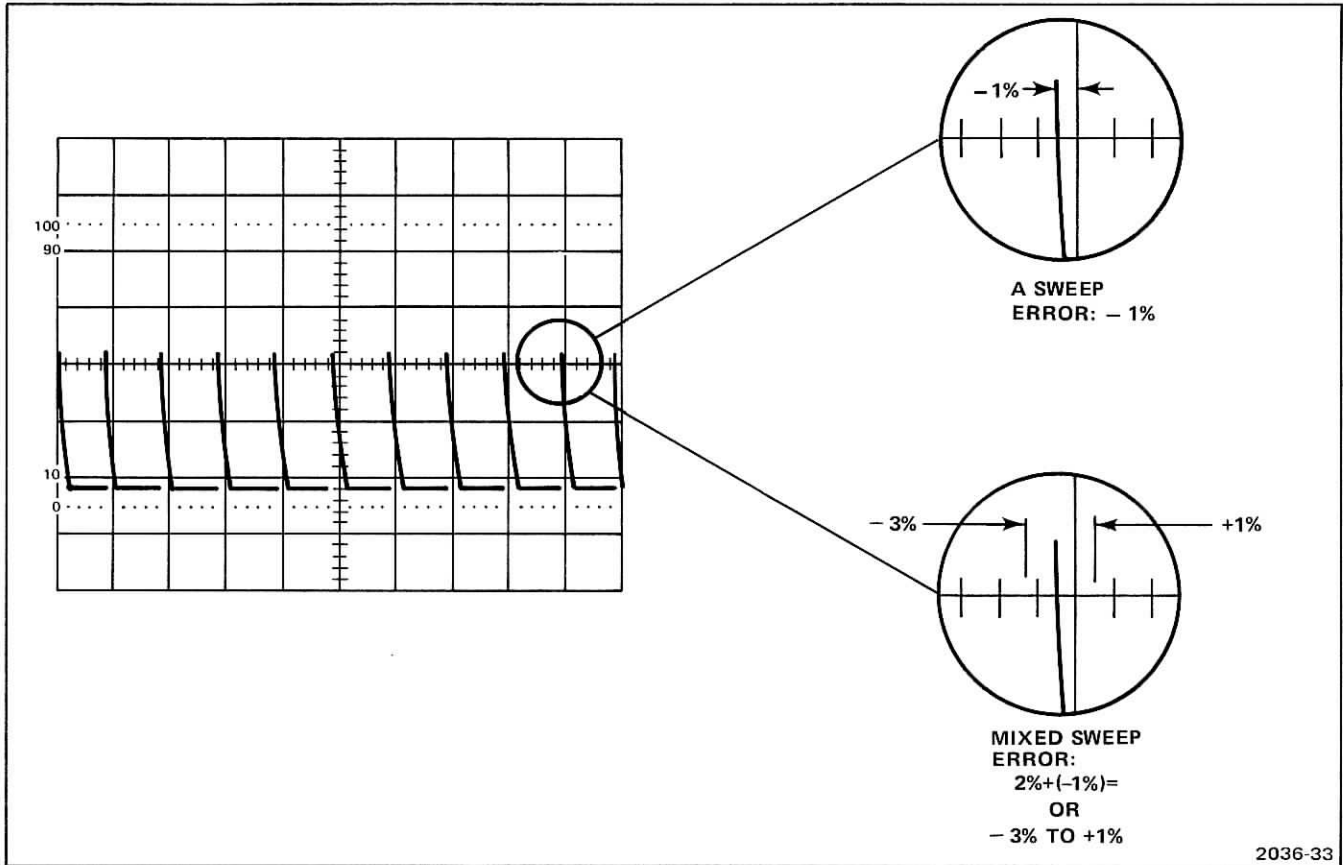

Fig. 6-5. Mixed sweep accuracy.
e. CHECK—Timing error between second and tenth time markers is within 0.18 division plus the error noted in part c (see Figure 6-5).